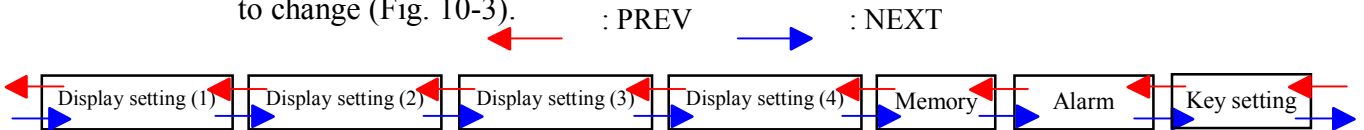
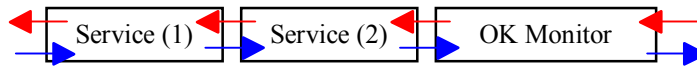
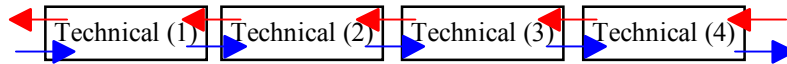

Figure 9-1
Figure 9-2
Figure 9-3
- ① Open the menu screen with the MENU key. The menu screen has three major types; User Menu, Service Menu and Technical Menu
- ② The User Menu has menu items as shown in Fig. 9-1, the Service Menu as in Fig. 9-2, and Technical Menu as Fig. 9-3. A menu screen can be selected with the NEXT and PREV keys.